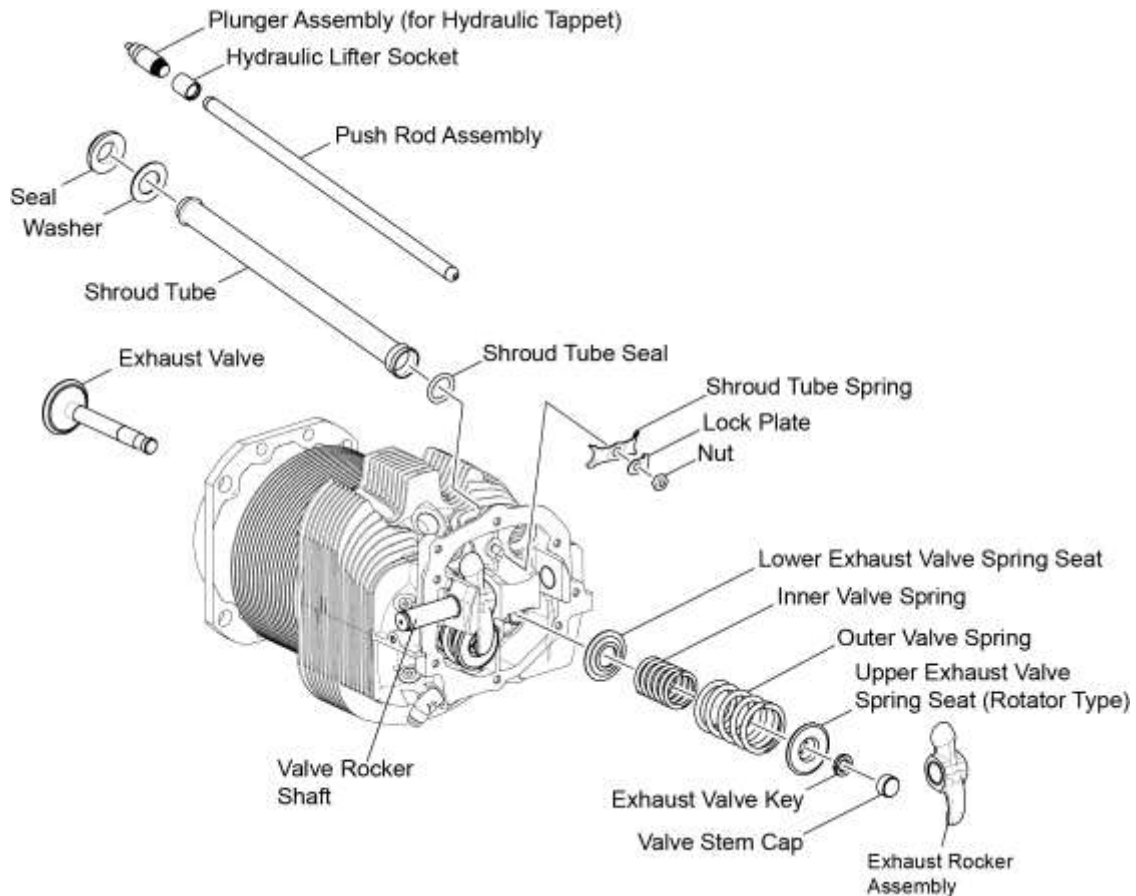

Figure 5
- (6) Remove the thrust button from the exhaust side of the valve rocker shaft (Figure 5) and push the valve rocker shaft toward the intake side enough to remove the exhaust rocker assembly.
- (14) Remove the nut, lockplate, and shroud tube spring (Figure 5). Discard the lockplate.
- (15) Remove the exhaust side push rod assembly, shroud tube, hydraulic lifter socket, and plunger assembly.
- (16) Remove the washer and seal from the cup in the exhaust side tappet bore of the crankcase, and shroud tube seal from the engine cylinder. Discard the seals.
NOTICE: Do not confuse “valve spring seats” with “valve seats,” valve spring seats (Figure 5) are metal disks installed on the ends of the valve springs in the rocker box and are field replaceable. Valve seats (Figure 15) are installed inside the cylinder at the surface where the intake or exhaust valve rests during engine operation when that valve is closed. Valve seats only can be replaced by an authorized vendor.
- (17) Use a cloth dampened with mineral spirits to wipe the oil from the top surface of the upper exhaust valve spring seat (Figure 5).
- (32) Examine and install an acceptable plunger assembly and hydraulic lifter socket (Figure 5) in the exhaust side tappet bore of the crankcase. Refer to the latest revision of Service Instruction SI-1011 for plunger assembly inspection guidelines.
- (33) Apply engine oil mixture (15% pre-lubricant (STP or equivalent) and 85% SAE No. 50 mineral base aviation grade lubricating oil) to the new seal and shroud tube seal (Figure 5).
- (34) Install a new seal and the washer into the cup in the exhaust side tappet bore of the crankcase.
- (35) Assemble the new shroud tube seal over the outer end of the shroud tube.
- (36) Insert the shroud tube through the hole in the rocker box and seat the end firmly into the crankcase.
- (37) Install the shroud tube spring, new lockplate, and nut. Torque the nut to 96 in.-lb. (11 Nm).
NOTICE: The valve stem cap (Figure 5) is only on the exhaust valve stem.
- (44) Install the exhaust rocker assembly (Figure 5).
- (45) Push the valve rocker shaft through the exhaust valve rocker assembly (Figure 5) and install the thrust button on the exhaust side of the valve rocker shaft.
- (46) Complete a dry tappet clearance check per the “Push Rod Installation” section in this chapter.